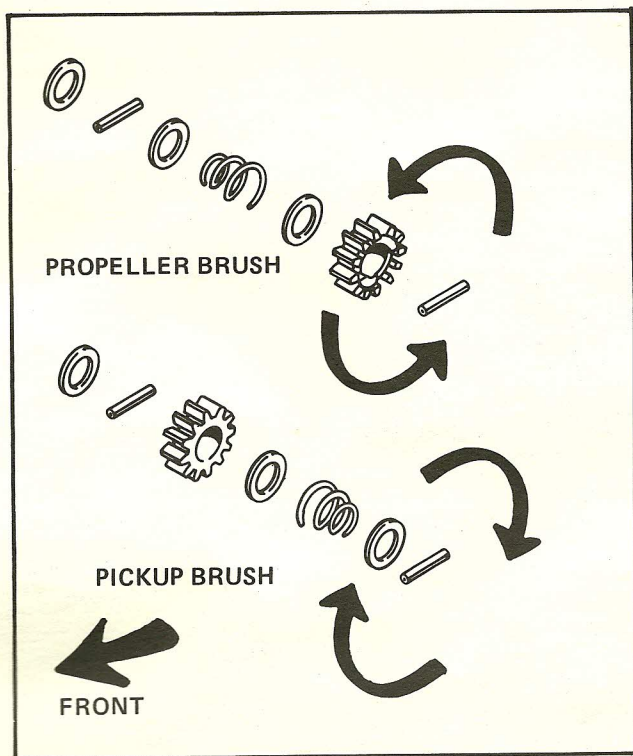

Figure 7A Correct Gear Installation
5. The spirol pins, springs, washers and pinion gears must be installed as illustrated (Figure 7A and 7B) to function properly.